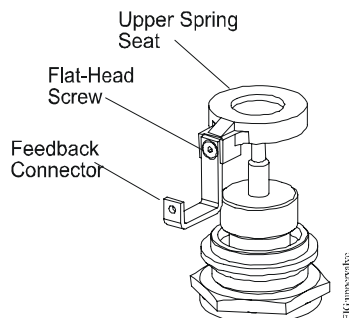

Figure 1: Upper Valve Detail
2. Remove the upper spring seat and install the new upper spring seat (Figure 1).
3. Attach the feedback connector to the upper spring seat with a flat-head screw (Figure 1). Leave the screw loose until you reach Step 8.
4. Remove the straight barbed fitting on the actuator and replace it with the elbow fitting (Figure 1).